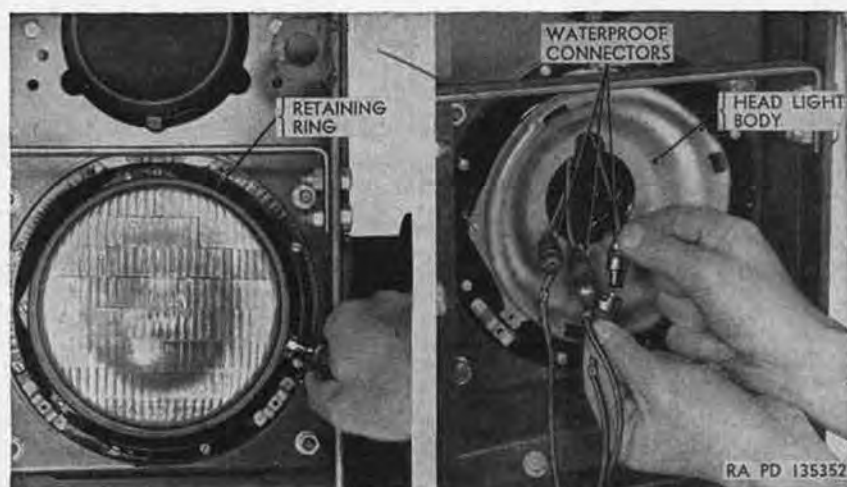

Figure 183. Removing headlight retaining ring and sealed-beam lamp-unit.
- (2) Remove three screws attaching retaining ring (fig. 183) to headlight body, and remove ring.
- (3) Pull sealed-beam lamp-unit from headlight body and disconnect cables at waterproof connectors (fig. 183).
- (1) Connect three cables at waterproof connectors (fig. 183) and position lamp-unit in headlight body.
(2) Position retaining ring (fig. 183), install three screws, and tighten.